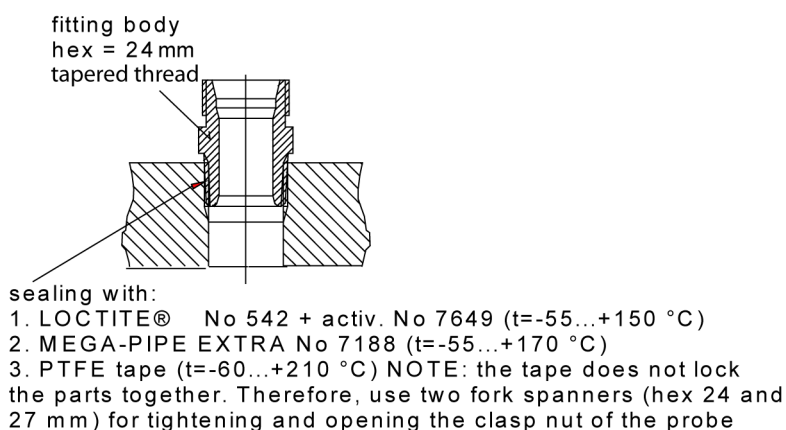

Figure 14 Sealing of Fitting Body into Process
3. Seal the threads on the fitting body; refer to Figure 14 on page 31.